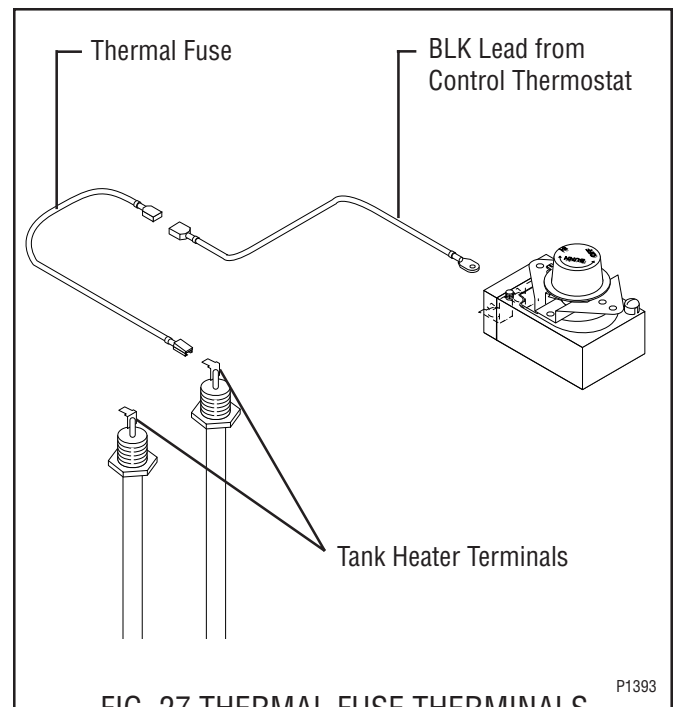

FIG. 27 THERMAL FUSE THERMinals
4. Refer to Fig. 27 when reconnecting wires.